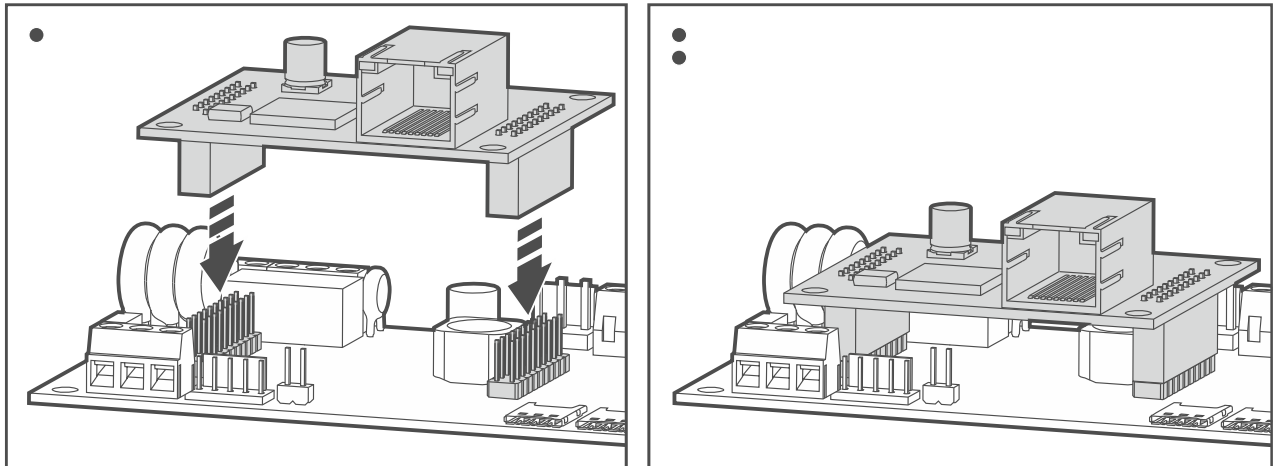

Fig. 9. Installing the GSM-X-ETH module.
3. Install the GSM-X-ETH Ethernet module in the connectors on the GSM-X Plus module electronics board (Fig. 9).